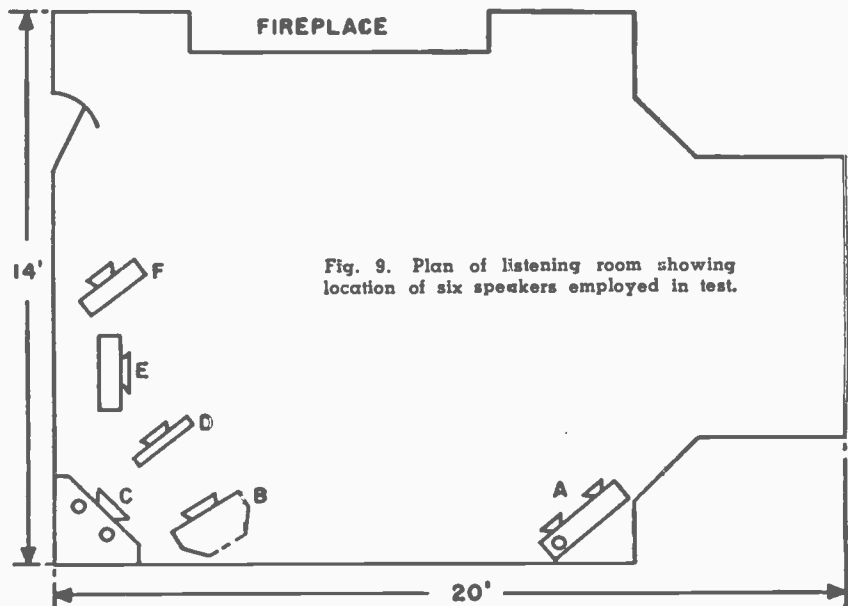

Fig. 9. Plan of listening room showing location of six speakers employed in test.
Fig. 8. Photograph of speakers outlined in Fig. 9 (A) Three-speaker system used in tests described in Part 2. (B) "Super 12" in Electre-Voice "Aristocrat" cabinet. (C) Three-way corner system. (D) Ten-inch speaker on sand-filled 28" x 24" baffle. (E), (F) Ten-inch speaker in 2 cu. ft. bass-reflex enclosure with acoustic filter.
It is necessary to include another plan of my own listening room to show the disposition of the half dozen speakers used in the tests. (See Fig. 9.) The corner speaker referred to as A in Fig. 7 of Part 2 now becomes C.